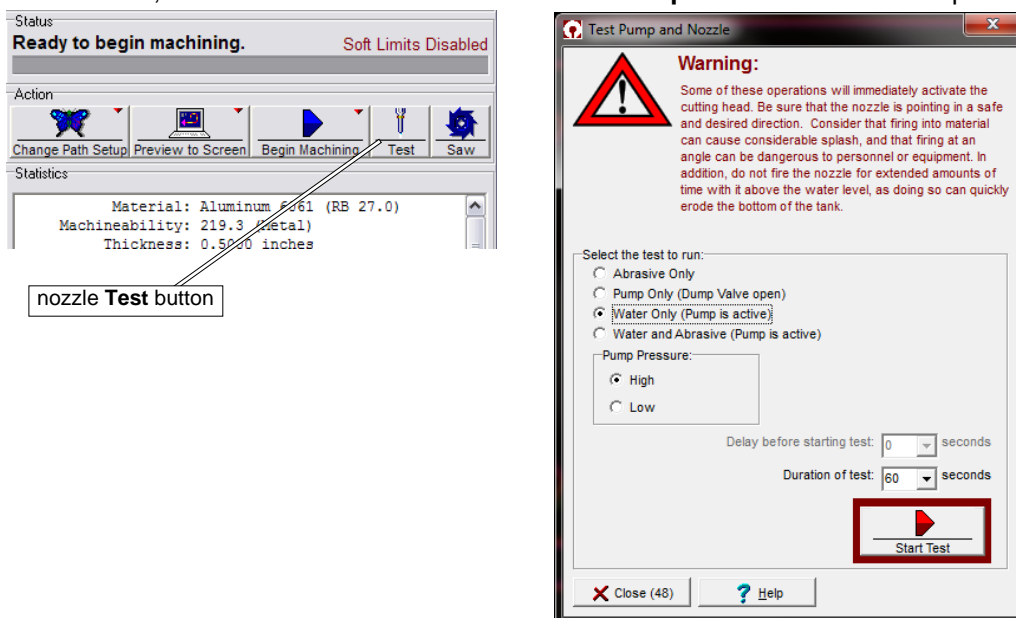

Figure 29: Click the **Test** button to open the **Test Pump and Nozzle** dialog box
10. Click the **Test** button (Figure 29) and this time select **Pump Only (Dump Valve open)** and pressure.